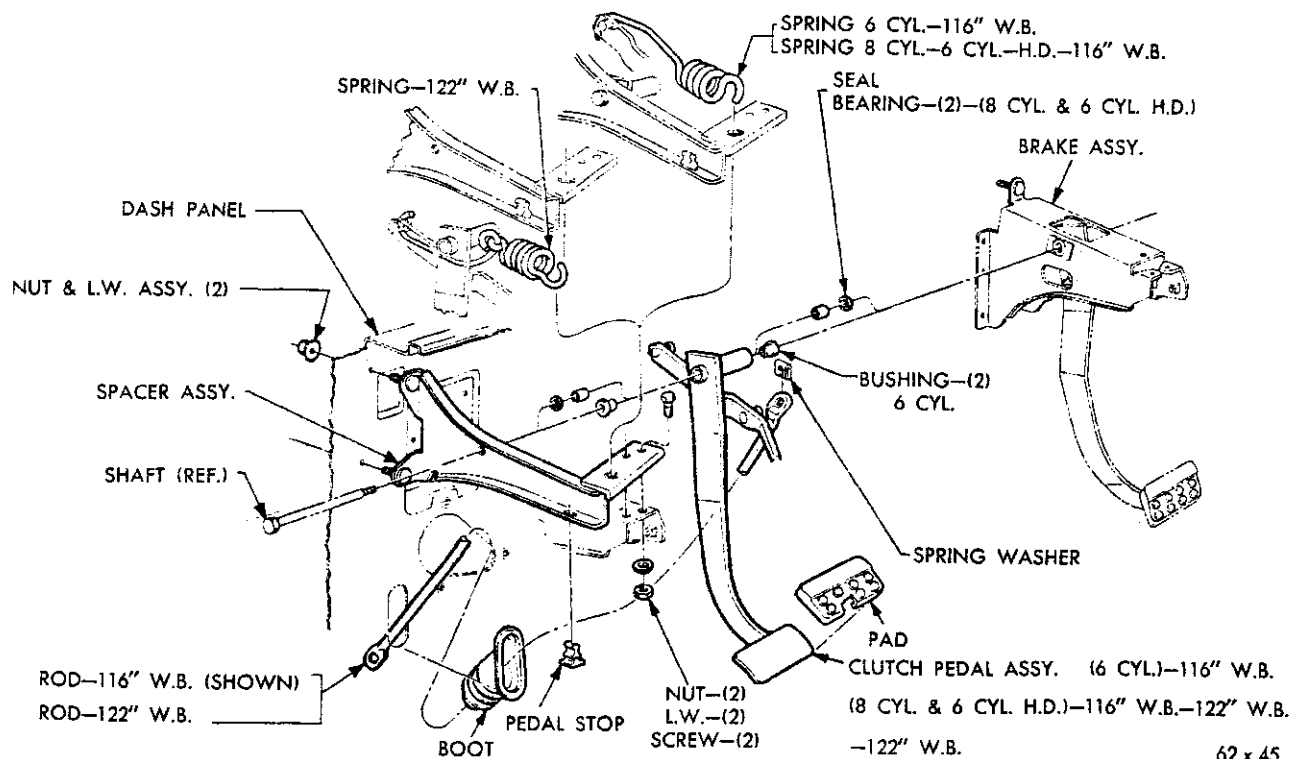

Fig. 2—Clutch Pedal Linkage (Disassembled View)
Shorten or lengthen the clutch release fork rod by turning the adjusting nut until there is  $\frac{5}{32}$  inch free movement of the clutch fork outer end (Fig. 2). This adjustment if correctly set, will give the necessary 1 (one) inch free play at the pedal.
(1) Remove the spring clip and pedal rod from the torque shaft lever (Fig. 2).
(2) Remove the clutch fork pull-back spring.
(3) Remove the spring clip and clutch release fork rod from the torque shaft lever.
(4) Remove the torque shaft support bracket attaching bolts.
(5) Pull the torque shaft away from the stud on the engine assembly and remove the two bearings.
(6) Remove the retainer and bracket from the torque shaft and remove the two bearings.